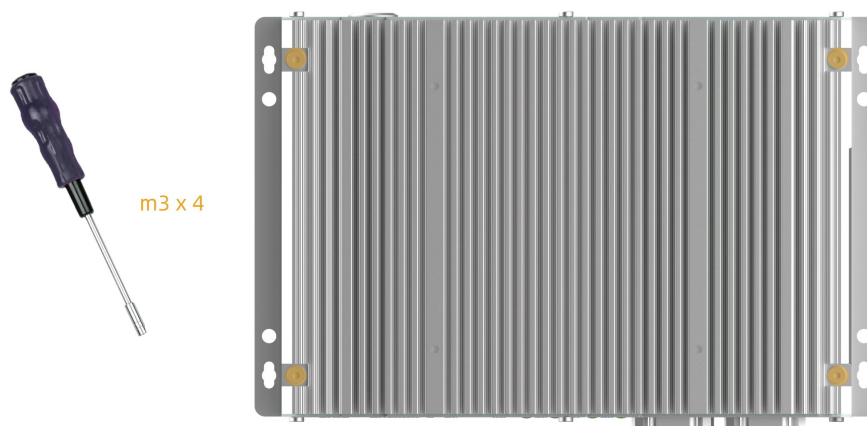

Figure 3-2-1
- ① First place the product horizontally, turn off the power and unplug all interfaces.
- ② Remove four m3 studs from the outside of the product (Figure 3-2-1), and gently remove the housing to see the internal circuit board structure.